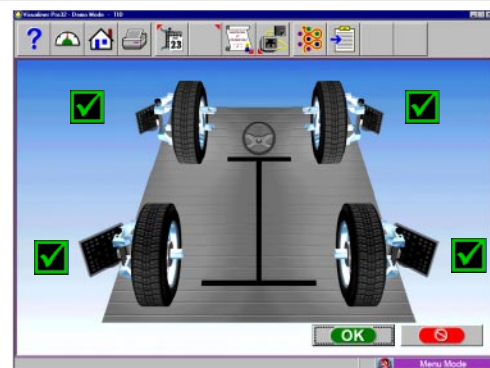

Figure 3-51
13. The program returns to the Target Selection screen to allow additional targets to be ID'd. (Figure 3-51) Repeat this process for all targets. A green check mark appears next to the targets that have been ID'd.